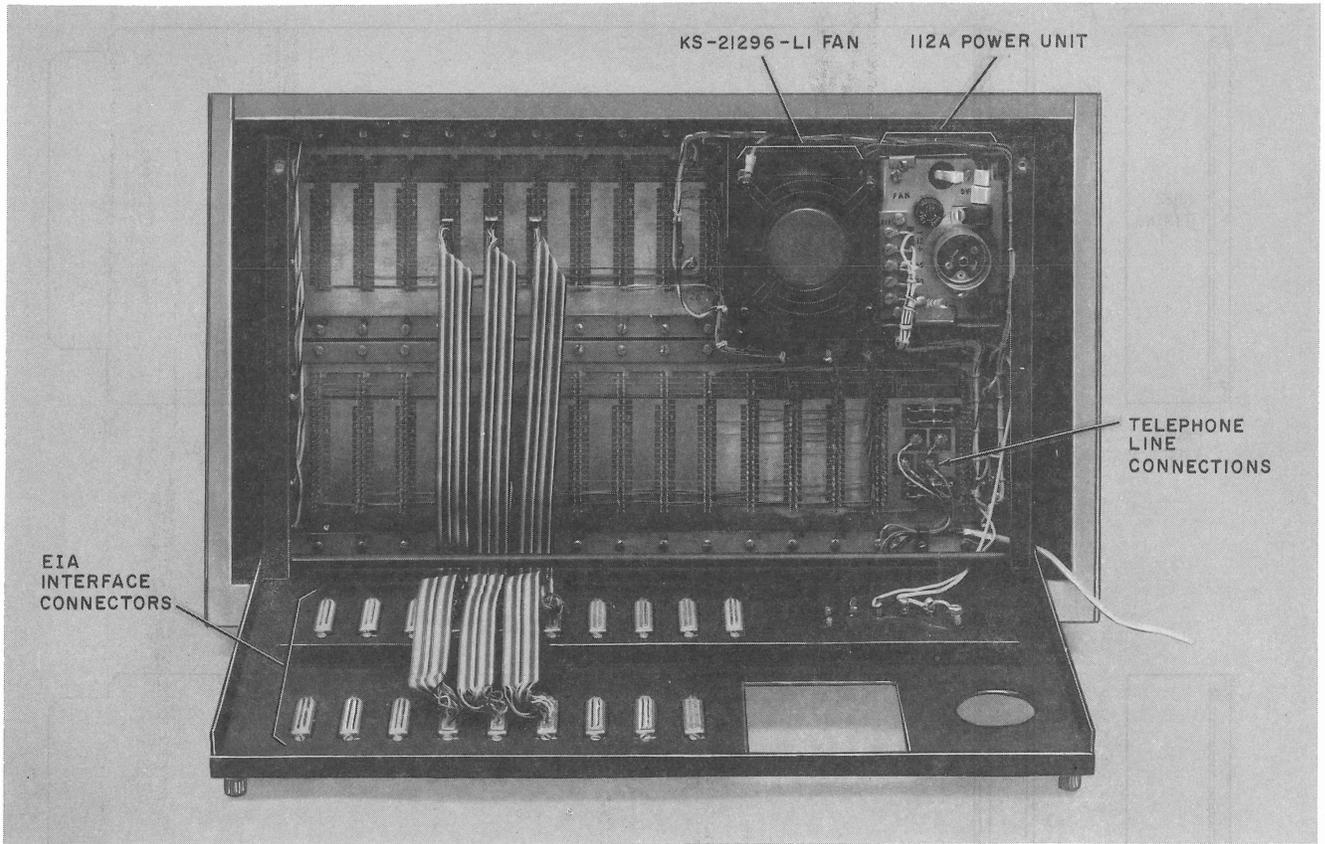

Fig. 3—Rear View of a 510A DSU Mounted in a KS-20018-L19 Cabinet With Rear Cover Lowered
**2.05** The rear of the 2-shelf nest (Fig. 3) contains 26 KS-21479-L4 50-pin connectors of which 25 provide connections to be made to the circuit boards on each CP. The remaining KS-21479-L4 connector is not connected electrically but is used to retain a spare CP located in the left end of